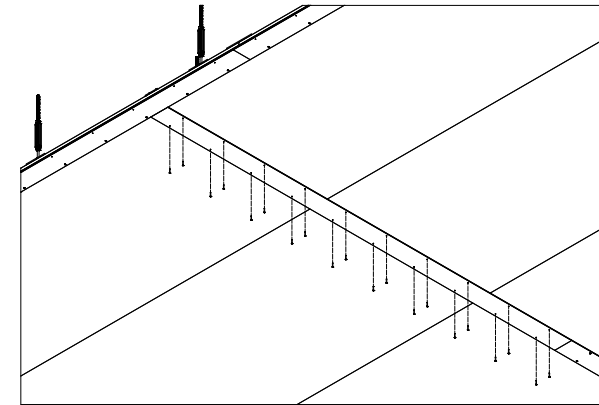

Fig 3E
4.3.9. Once again, confirm that beams are parallel and correctly spaced before screw-attaching through the beam face (**Fig 3E and 3F**).